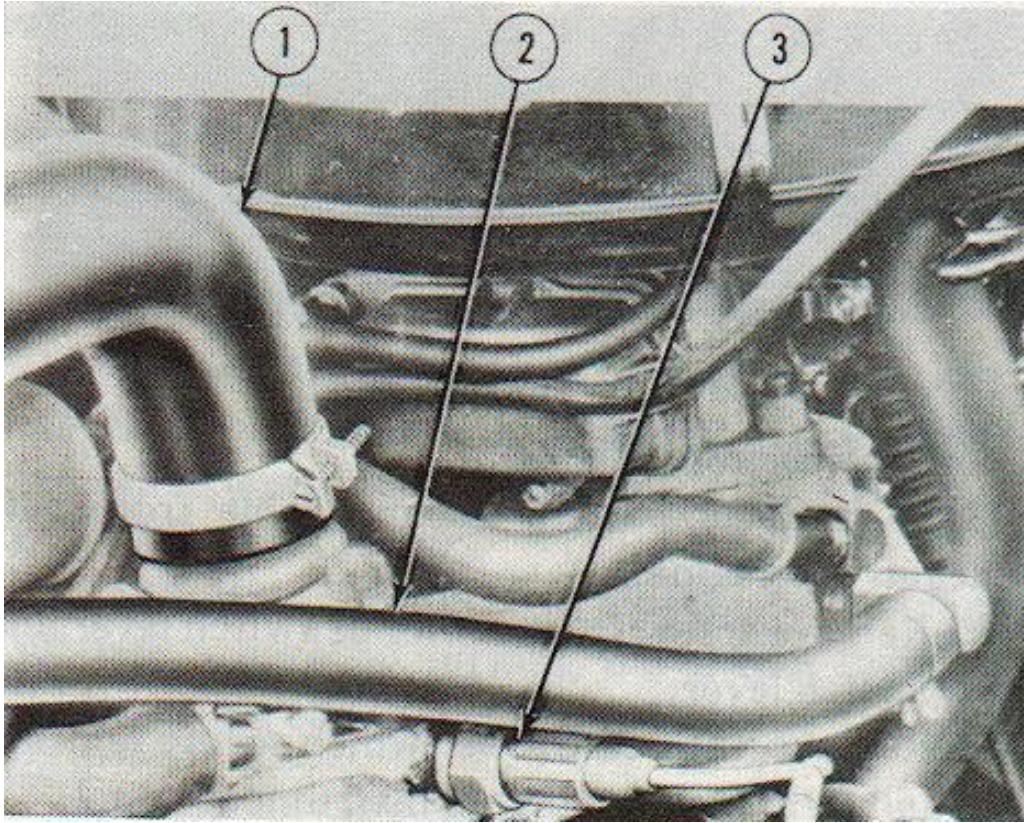

Figure 2-52. Temperature sending unit
- (1) Remove instrument cluster from instrument panel as outlined in (a) above.
- (2) Disengage cable connector from clip on speedometer clamp.
- (3) Remove nut and lock washer from two speedometer clamp studs. Remove cable connector clip from one stud and remove molded electric lead splice from other stud.
- (4) Remove long stud and lock washer securing clamp to speedometer. Remove clamp, then remove speedometer from front of cluster panel.
e. Temperature Indicator Sending Unit. (Fig 2-52)
- (1) Disconnect cable from sending unit terminal.
(2) Unscrew and remove sending unit from the forward Section of the intake manifold.
f. Oil Pressure Sending Unit. (Fig 2-52)
- (1) Disconnect cable from terminal of sending unit.
- (2) Unscrew sending unit from fitting on right rear of engine cylinder block.